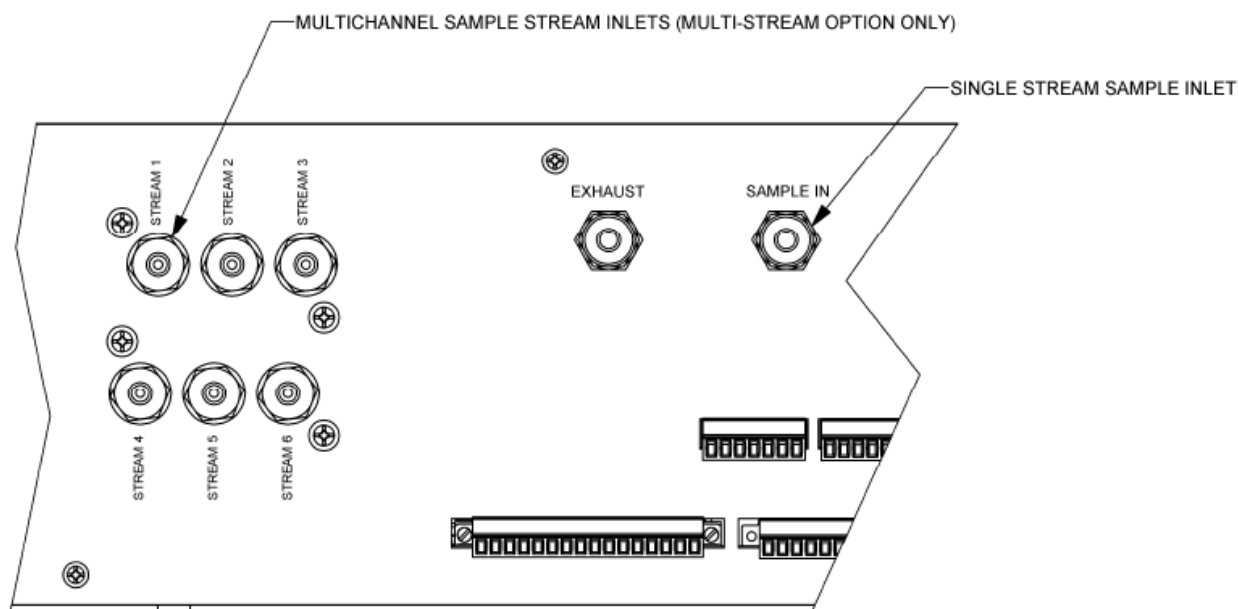
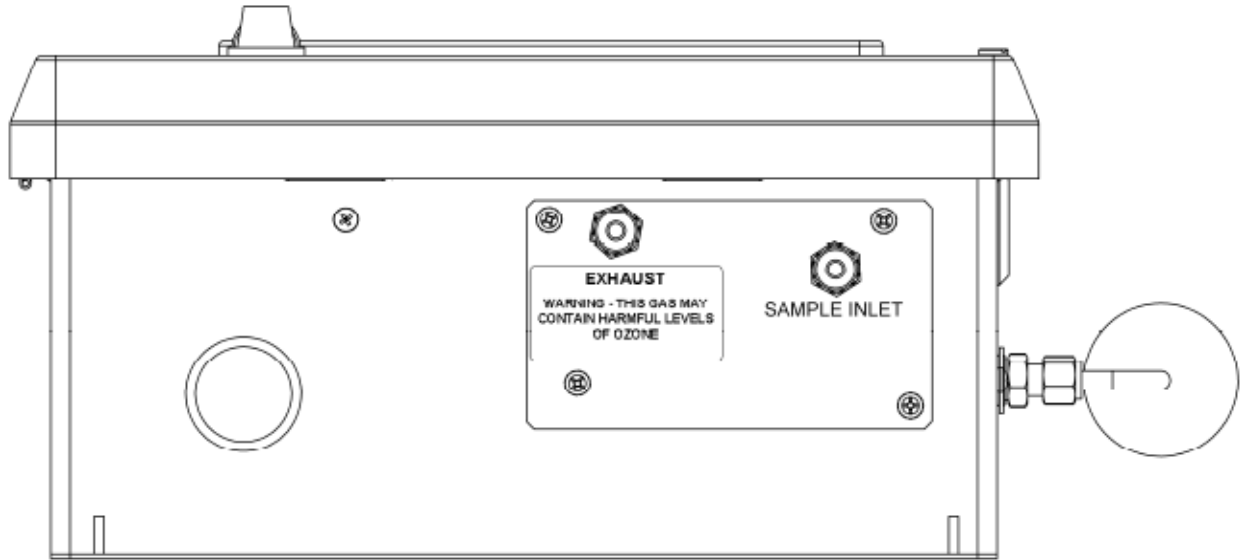
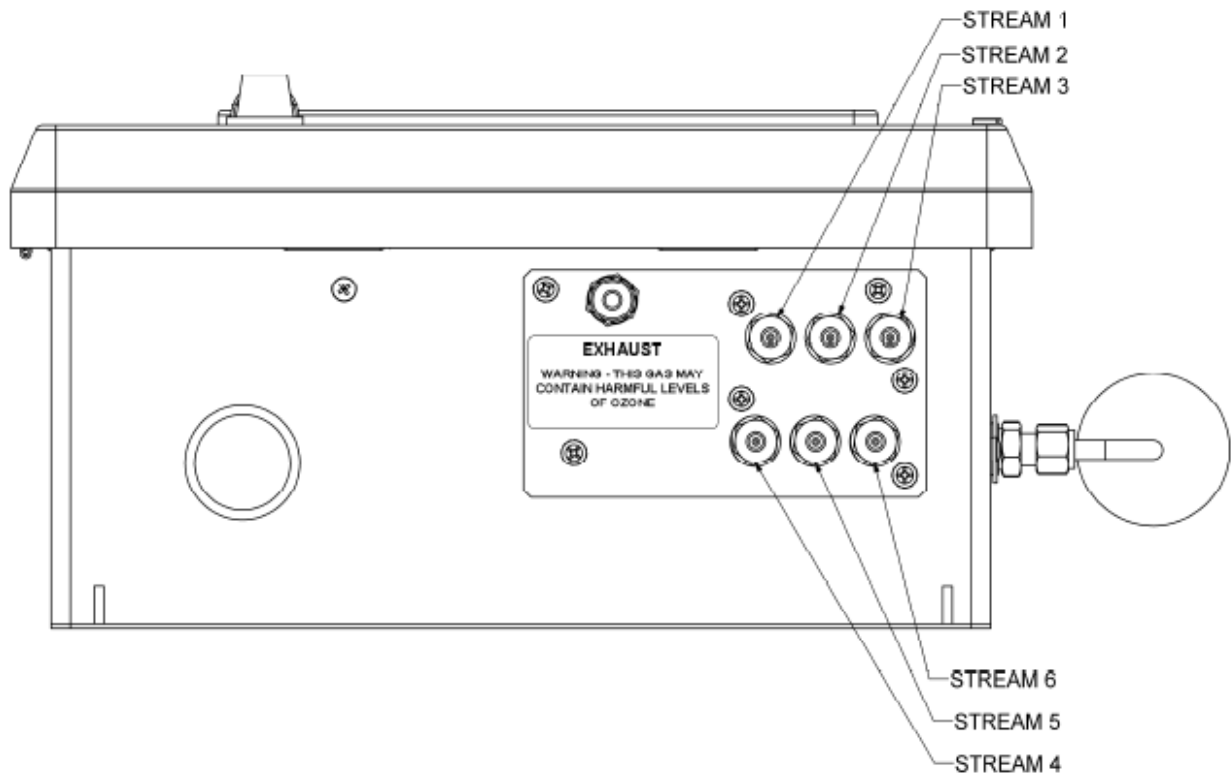

Figure 4-3: Pneumatic Connections, Rack Mount Configuration
Figure 4-4: Pneumatic Connections, NEMA Configuration, Single Stream
Figure 4-5: Pneumatic Connections, NEMA Configuration, Multi-Stream
3. Connect sample inlet line(s) to the sample port on rear panel or bottom panel of instrument. See Figure 4-3 or Figure 4-4 for rear panel pneumatic connections.
Connect the exhaust fitting on the rear panel (see Figure 4-3) to a suitable vent outside the monitor area.
Sample gas connections are made to the ¼" tube fittings on the rear panel. For single stream monitors, use the fitting labeled "Sample Inlet." For multi-stream monitors, the sample tubing is connected to the fittings labeled Stream 1, Stream 2, etc (See Figure 4-3, Figure 4-4, Figure 4-5)